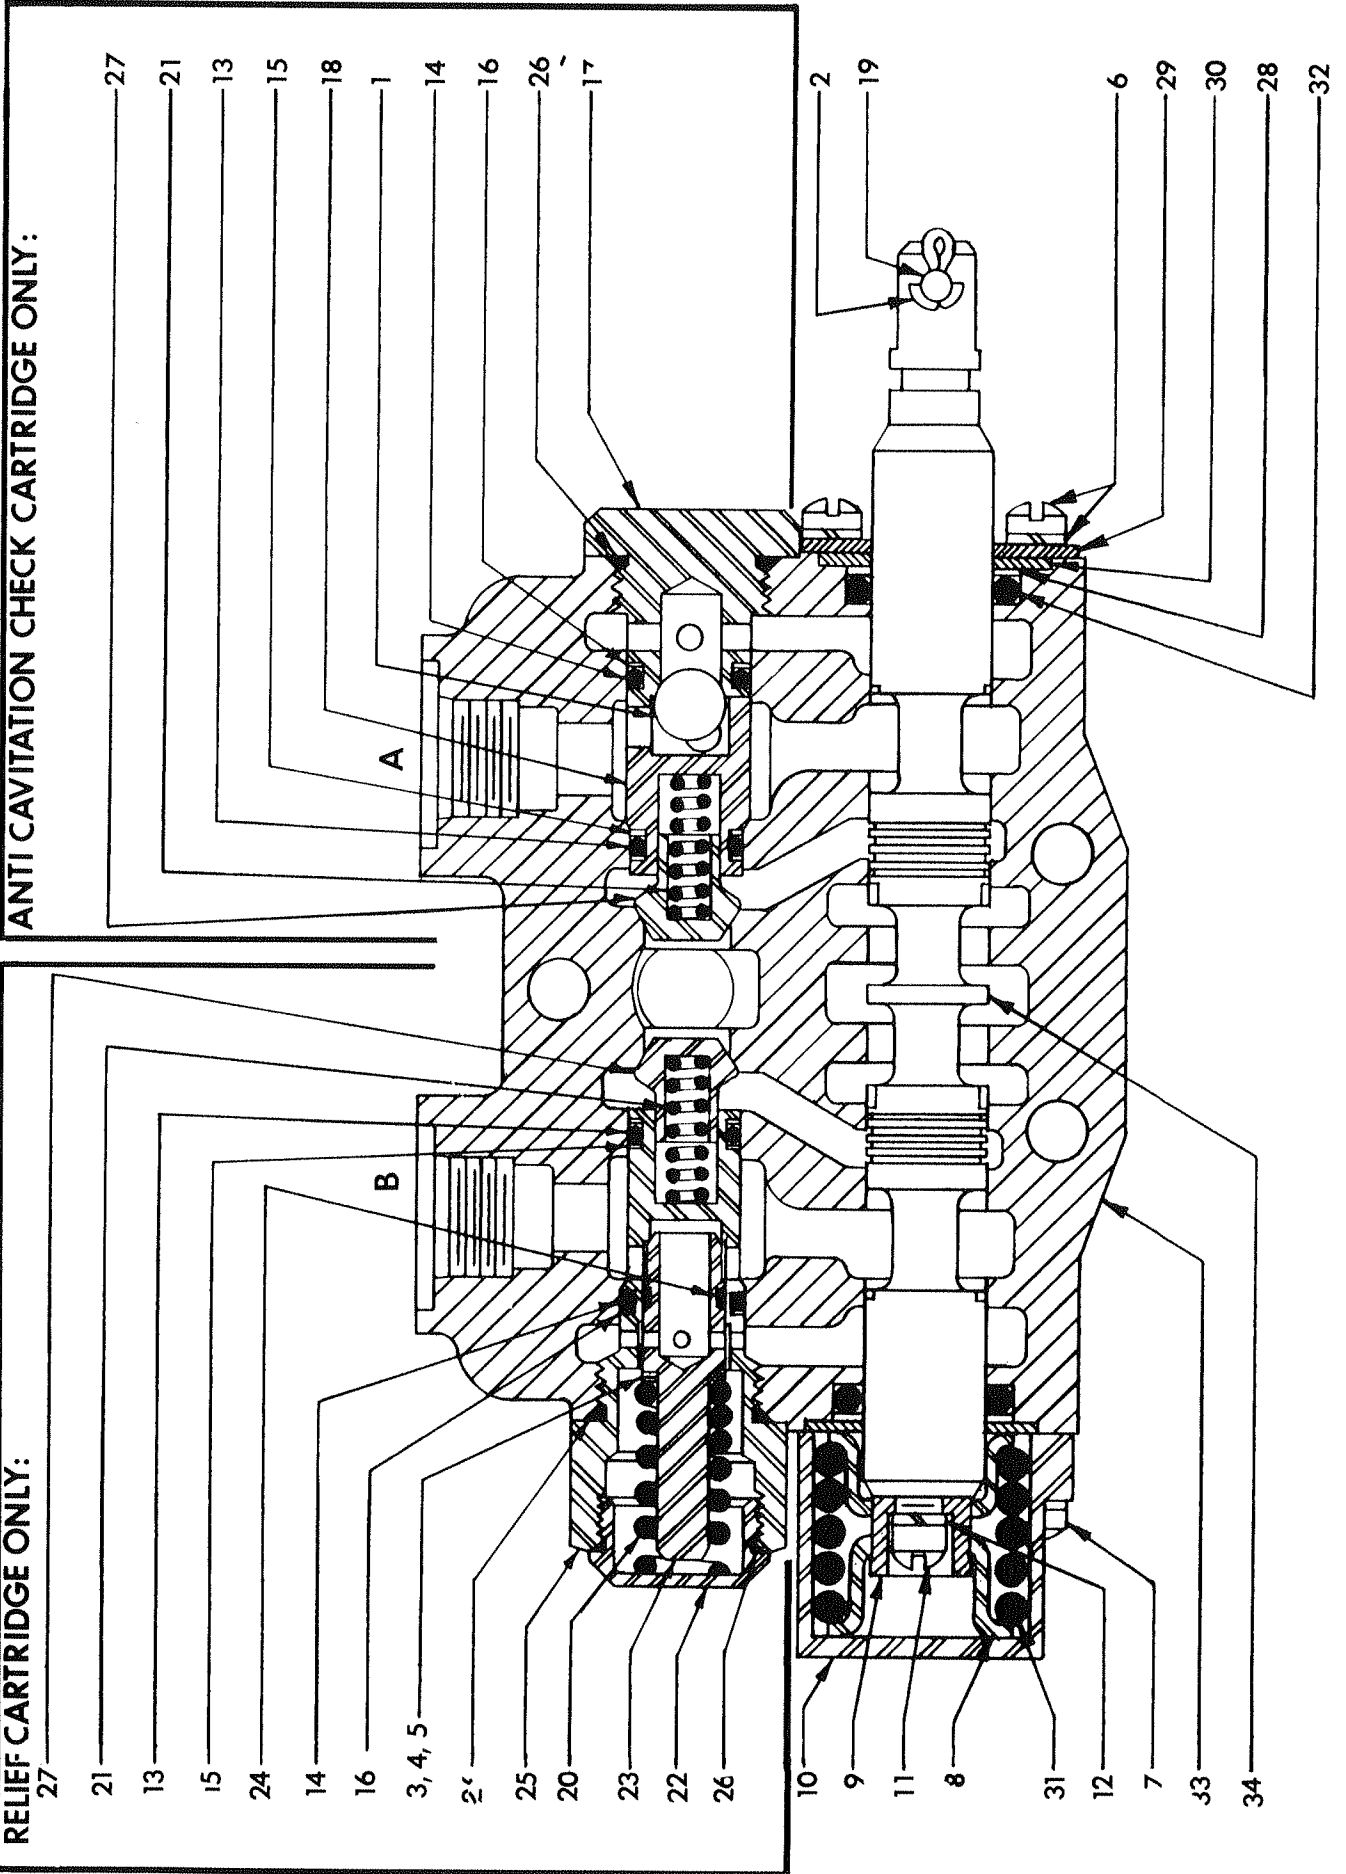

FIG 8
20. Bent spool.....	return for factory repair, or replace with new spool section. See item 31 at the end and Fig 8, 9, and 10.
23. Spool not moved to full stroke.....	check travel, should be 5/16 inch either way or a total of 5/8 inch. See item 31 at the end.
25. Overload relief valve in the control..... valve stuck open or malfunctioning.	clean relief carefully but do not disturb its pressure setting as it can not be field calibrated, or replace cartridge. See item 31 at the end and Fig 8 and 9.
28. Check poppet in the control valve.....clean check poppet(s) carefully, being sure that it moves freely with good spring action and seats properly or replace. See item 31 at the end and Fig 8, 9, and 10.
29. Damaged or worn spool seals.....replace spool end seals, see item 31 at the end and Fig 8, 9, and 10.
30. Check ball in anti-cavitation check.....clean anti-cavitation valve carefully, being sure that checks move freely and seat properly, or replace cartridge. See item 31 next, and Fig 8 and 9.
PARTS LIST - FIG 8